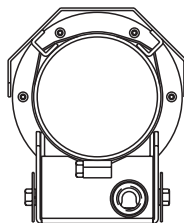

Figure 21
2. Align the sunshield (Figure 21).